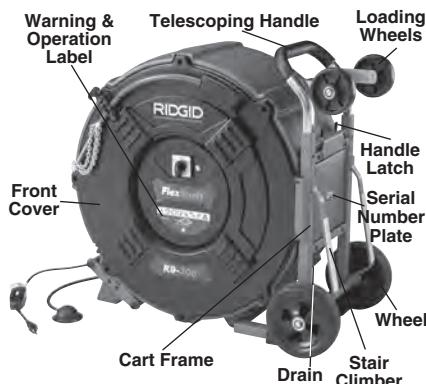

Figure 1A – RIDGID® FlexShaft Drain Cleaning Machine
Serial number plate is located on cart side of housing. (See *Figure 1A*) The last 4 digits indicate the month (MM) and year (YY) of manufacture.